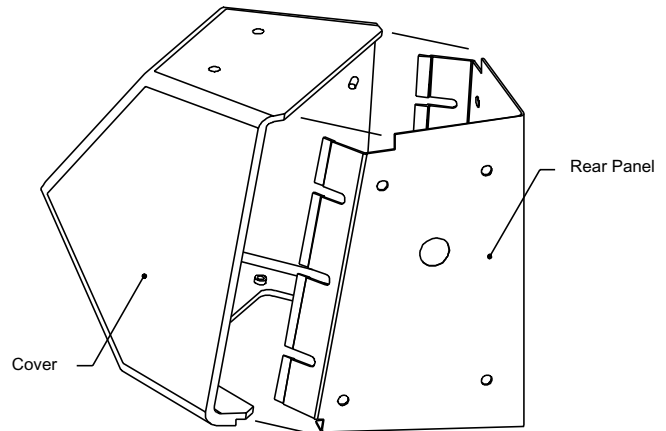

Figure 3: Removing the Cover
3. Reach into the housing and remove the six flange nuts that attach the cover to the rear panel. Remove the cover. **See Figure 3.** Note: Do not lose these parts. They will be needed in reassembly.